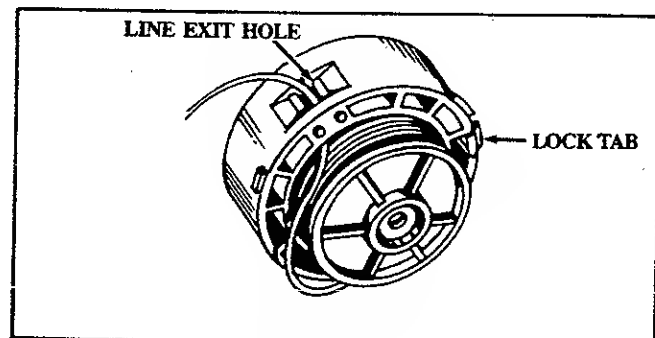

Figure 18
- Insert the end of the Line in the Line Exit Hole as shown in Figure 18. Place Spool in Hub. Make sure the Trimmer Line is not caught between the rim of the Spool and the Hub.